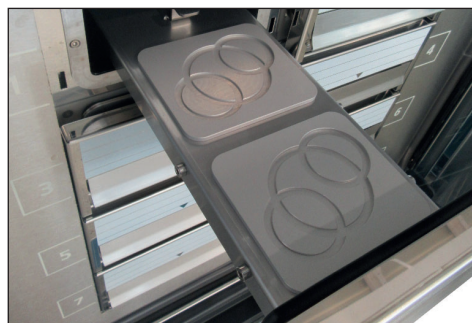
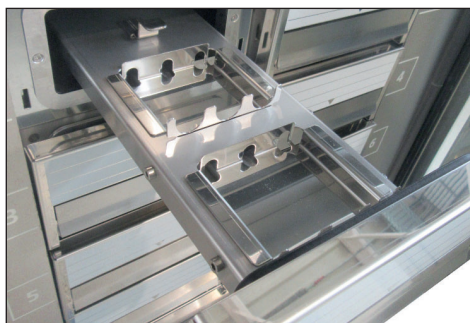

Fig. 10 Inserts for Petri dishes and / or 4-well plates inserted
Fig. 11 Tube holder inserted
4. Place inserts for Petri dishes and/or 4-well plates and tube holders (Fig. 10 and Fig. 11).